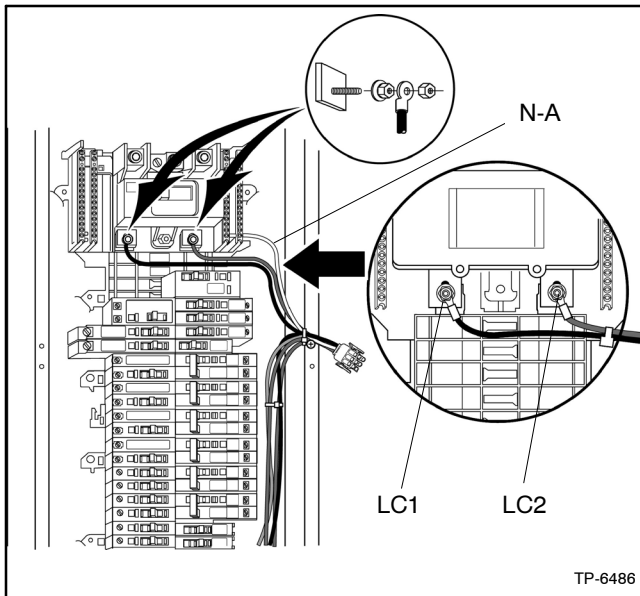
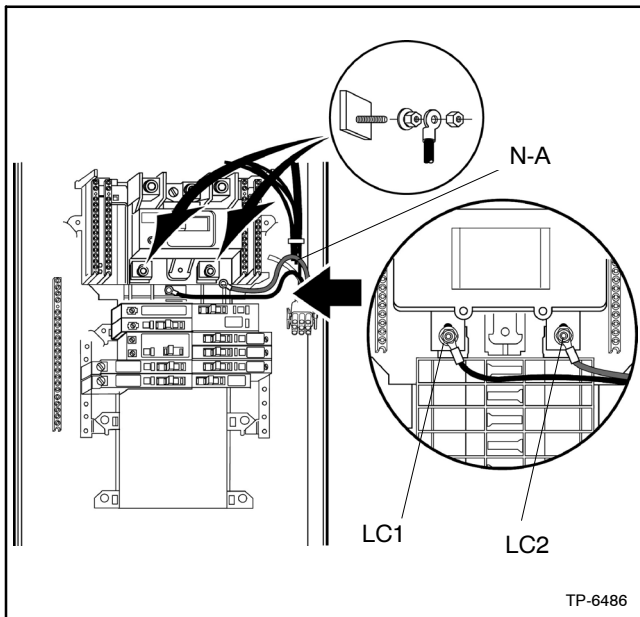

Figure 2-19 Bus Bar and Neutral Connections, Type 1 Enclosures
Figure 2-20 Bus Bar and Neutral Connections, Type 3R Enclosures
5. Install leads LC1-A and LC2-A of the long control harness onto the bus bar studs as follows. Refer to Figure 2-18 for the lead and terminal markings. Refer to Figure 2-19 and Figure 2-20 for terminal locations and hardware stacking. Refer to Figure 3-2 or Figure 3-3 for wiring schematics.
Note: Ensure that wiring harnesses are routed as illustrated in Figure 2-19 and Figure 2-20. The transfer mechanism will not seat properly if leads are not corrected routed.
6. Connect lead N-A of the long control harness to the load-center neutral with a flat-blade or a square driver. Torque the terminals to 2.3 Nm (20 in. lb.). See Figure 2-19 or Figure 2-20.